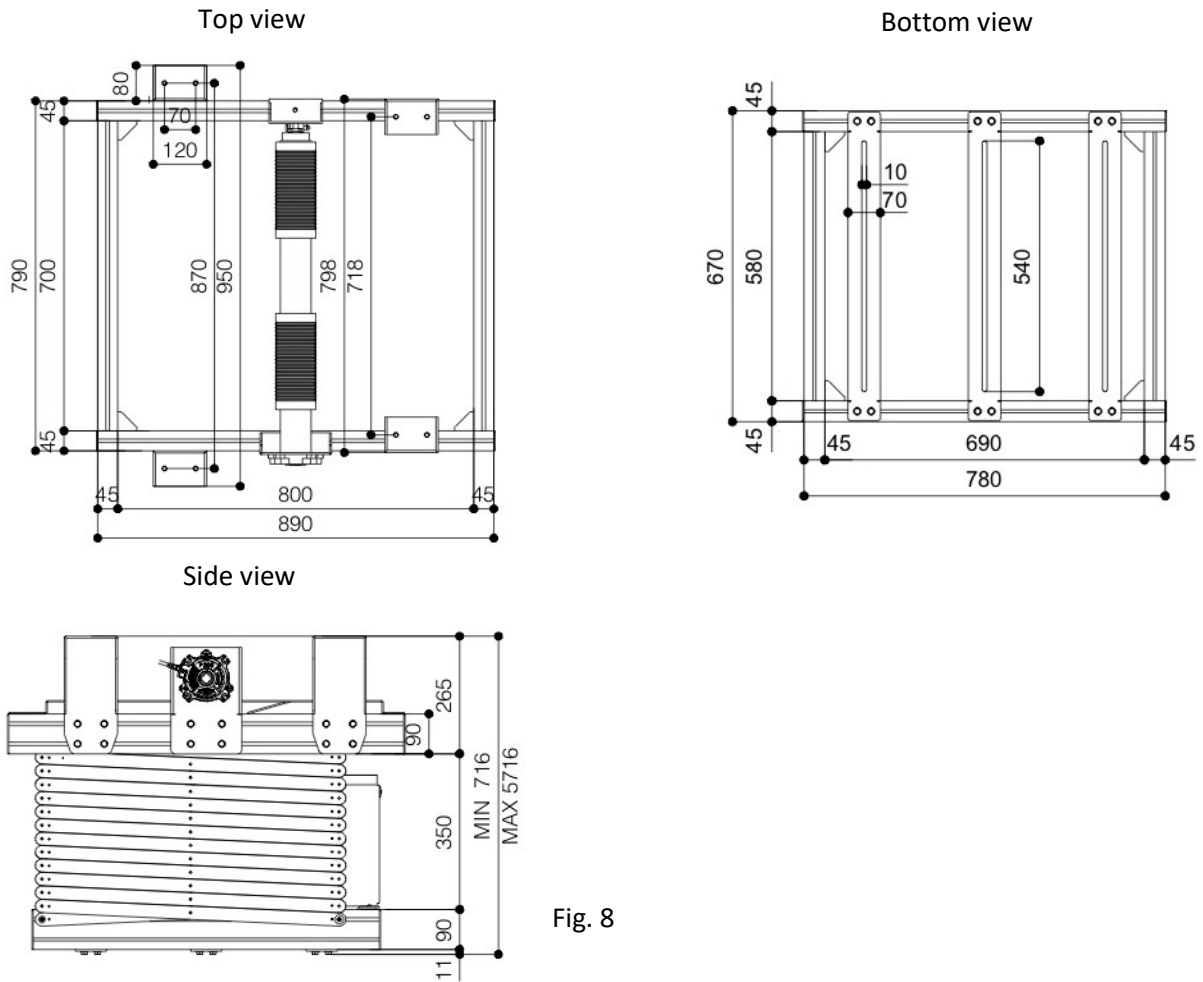

Fig. 8
- 1- Brackets mounted towards outside – Fig. 8-A – page 10
- 2- Brackets mounted towards inside – Fig. 8-B – page 10